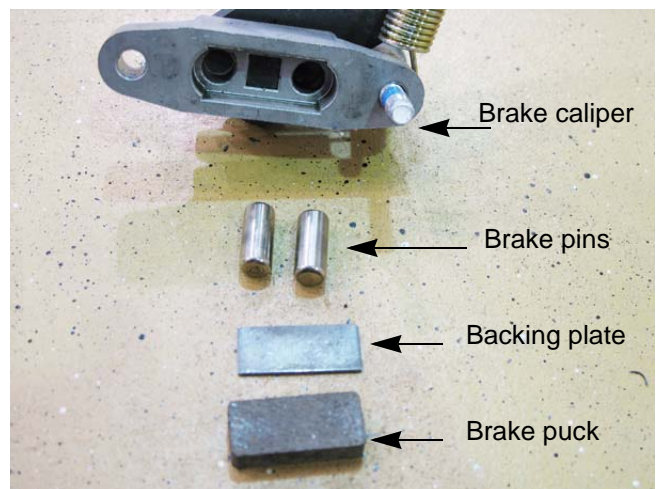

Figure 4.9
10. With the caliper on a work bench, remove the brake puck, backing plate and the two brake pins. See Figure 4.9.